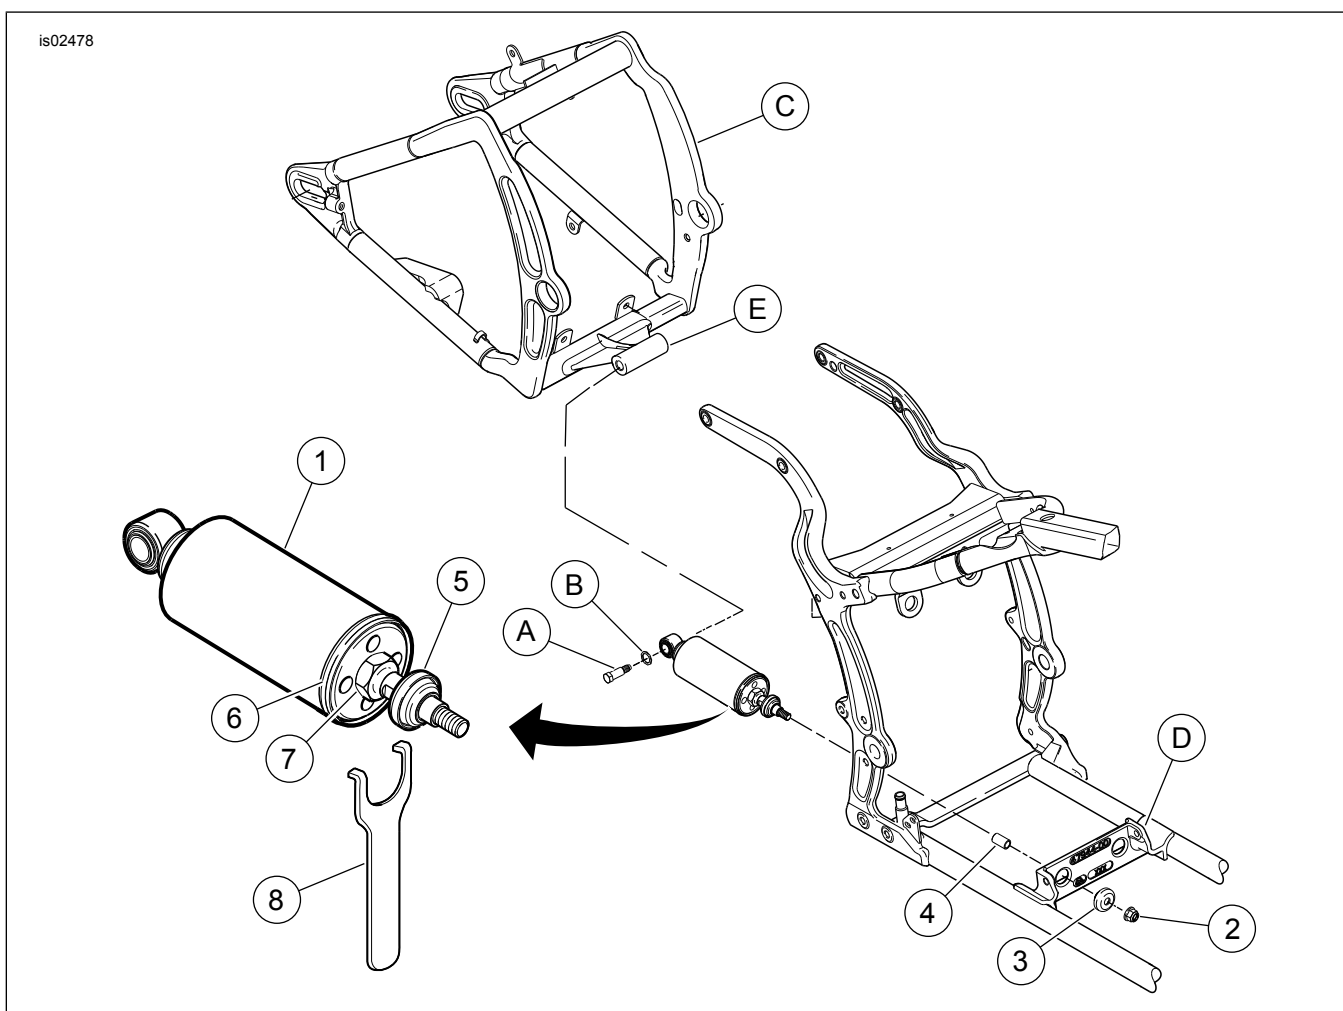

Figure 1. Service Parts: Softail Profile Low Rear Shock Absorber Kits
See Figure 1 and Table 1.
4. See Figure 1. Remove stock bolt (A) and washer (B) that fasten each shock absorber (1) to rear fork (C). Save for later use.
5. Remove flanged locknut (2) and washer/grommet assembly (3) fastening each shock absorber (1) to frame crossmember (D). Discard shock absorber and attaching hardware from threaded end of shock.
1. See Figure 1. Remove flange nut (2) and outer washer/grommet (3) from the Profile® Low rear shock absorber (1). Leave bushing (4) and inner washer/grommet (5) on shock absorber shaft.
2. Insert shock absorber shaft through frame crossmember (D).
3. Slip outer washer/grommet (3) onto the shock absorber shaft (grommet side first), and loosely fasten with flange nut (2). Check that washer/grommet properly fit hole in frame crossmember. Do not tighten at this time.
5. Align shock absorber eye with rear fork mount (E) by adjusting rear wheel height with screw jack.
6. Fasten shock absorber (1) to rear fork (C) with stock washer (A) and bolt (B) previously removed.
8. See Additional Parts Required. Tighten each rear shock mounting bolt (A) to 121-136 ft-lbs (164.1-184.4 Nm).
1. See Figure 1. Place a mark in the same position on the adjuster plate (6) of each shock absorber.
2. Loosen jam nut (7) on each shock absorber.